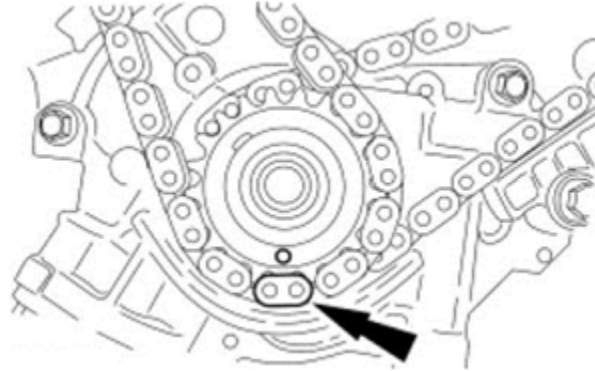

Figure 6 – RH Timing Chain Alignment With Crankshaft Sprocket
8. Position the lower end of the RH (outer) timing chain on the crankshaft sprocket, aligning the timing mark on the sprocket with the single colored (marked) chain link as shown in Figure 6.